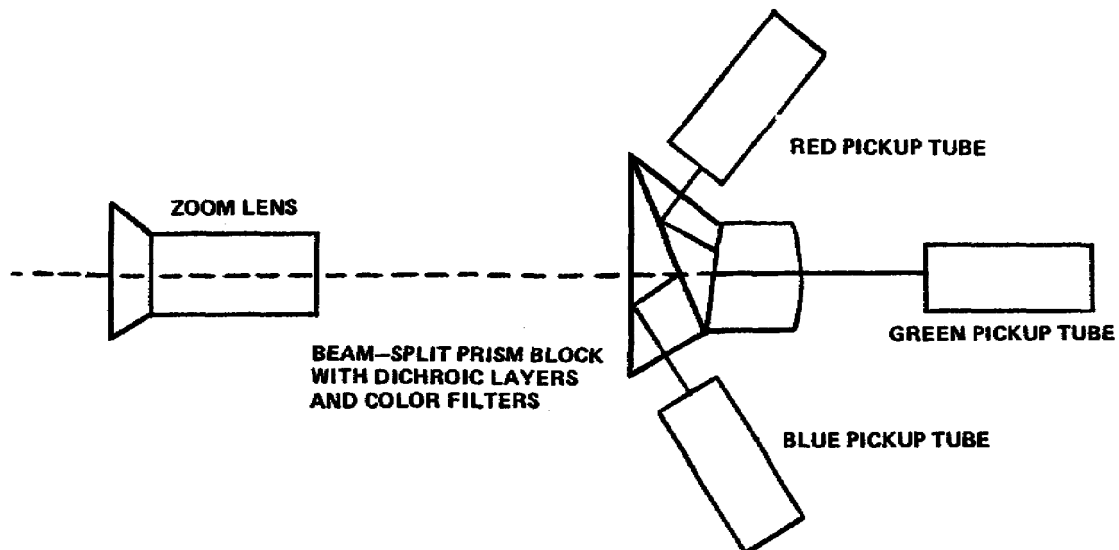

Figure 1-7. The prism block system
(2) The prism block. Because the dichroic mirror system is so critical in its alignment and therefore, quite vulnerable to physical shock, most cameras, especially the ENG/EFM cameras, use as their internal optical system the prism block. The incoming light is separated and directed to the pickup tubes by prisms and color filters. Since prism blocks soak up less light than dichroic mirrors, they are used in high quality cameras (fig 1-7).